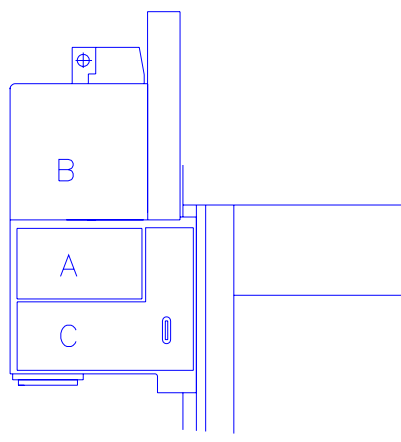

FIG. 7.6 SPINDLE HEAD (GEAR SWIFT TYPE)
REMOVE THE BOWL GUARD AS SHOWN IN FIG 7.6 TO REPLENISH OIL IN THE LUBRICATOR OF PNEUMATIC UNIT. THE LUBRICATION SHOULD BE FILLED WITH OIL UP TO THE UPPER LIMIT OF THE LEVEL GAUGE ( ABOUT 80 % OF LUBRICATOR CAPACITY ).
LOOK FROM WINDOW ON COVER (A) TO CHECK GEAR BOX OIL (FIG. 7.6) .